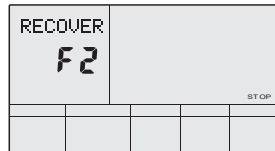

fig 42
- F1 = Excellent F2 = Good F3 = Fair F4 = below average F5 = No Good F6 = Poor (See fig 42)